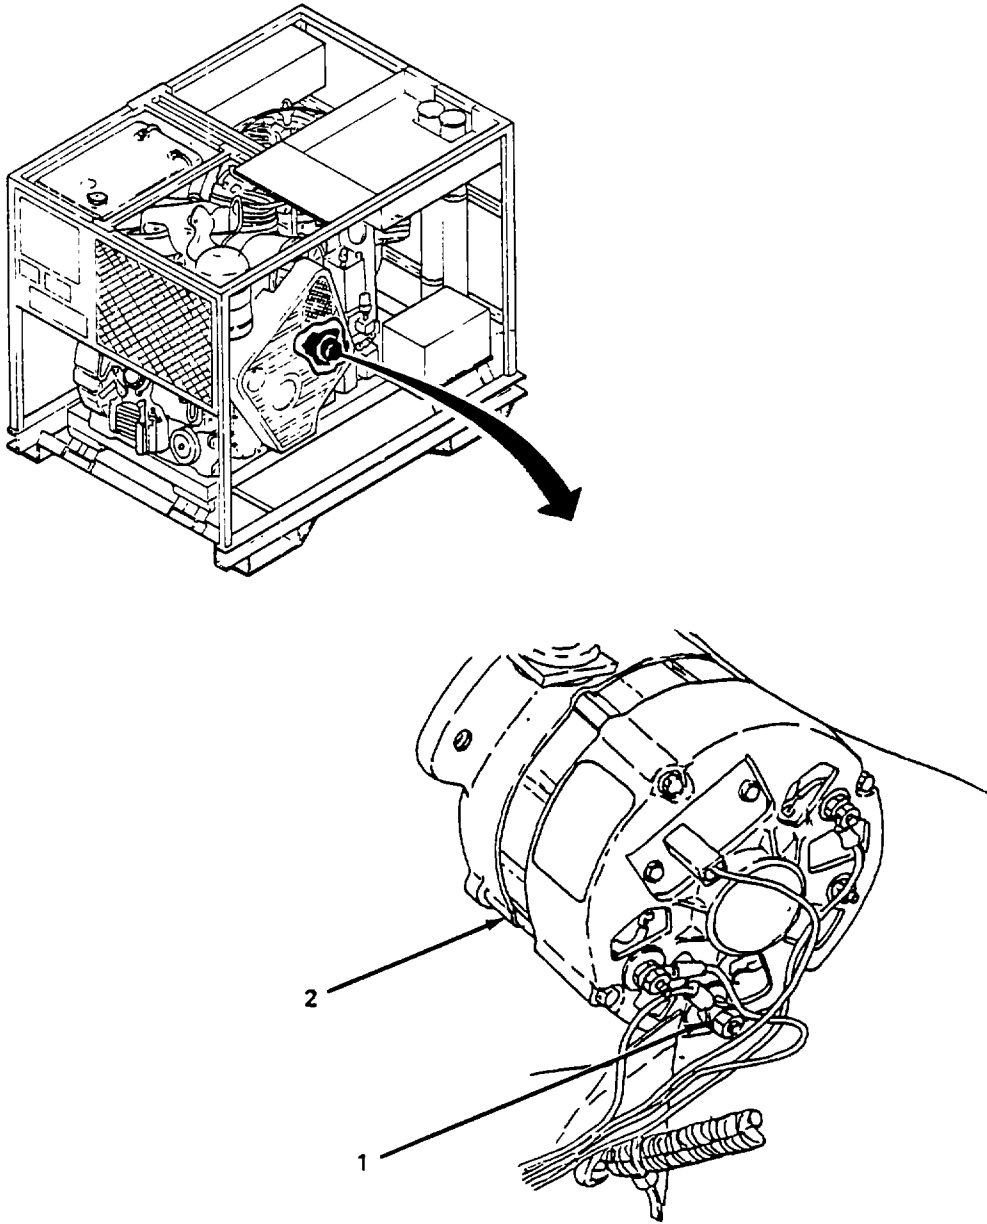

Figure 4-55. Alternator, Test.
a. Test. (figure 4-55)
- (1) Start engine (para. 2-12).
- (2) Connect positive lead of multimeter to BAT terminal (1) on alternator (2).
- (3) Connect negative lead of multimeter to case of alternator (2).
- (4) Voltage reading should be 12 - 14 volts. If reading is less than or more than specified, replace alternator.
- (5) Disconnect leads.
- (6) Stop engine (para. 2-13).